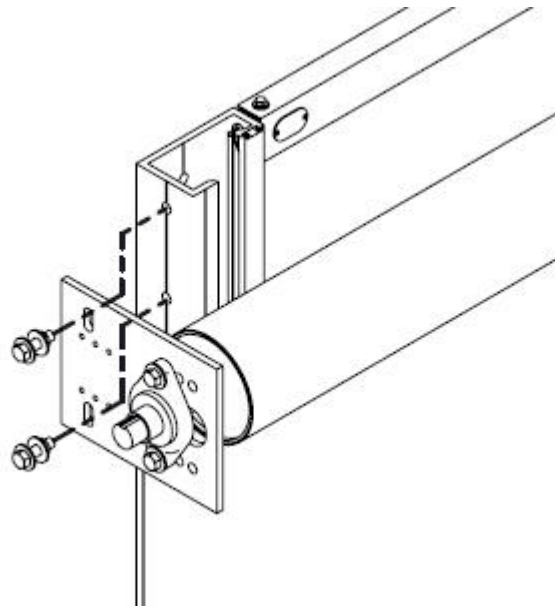

Figure 13
18. Lift the top roll assembly into position. Fasten the drive side bearing plate assembly first to the side frame. Then mount the non-drive side bearing plate assembly, second onto the side frame (Figure 13).